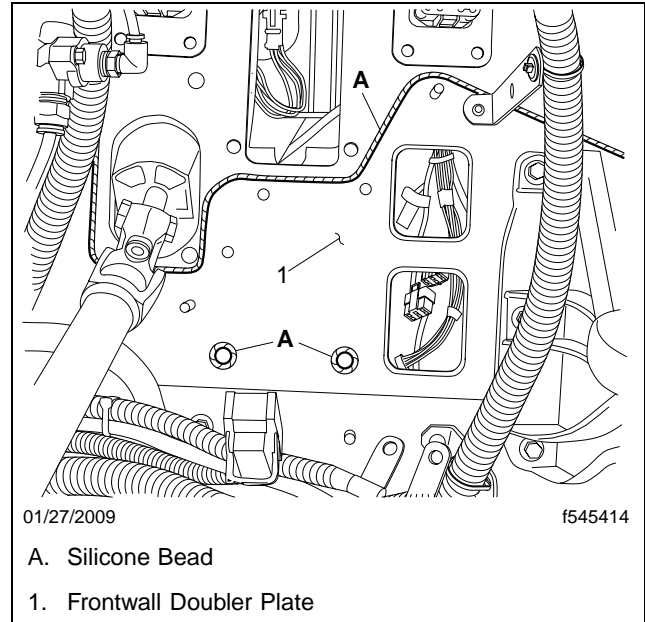

Fig. 14, Applying Silicone
28. If the vehicle was built before March 10, 2008, clean the edges of the frontwall doubler plate (see **Fig. 14**), then apply a bead of RTV silicone around the edges, extending the silicone bead all the way to the outboard edge of the frontwall. Also, apply a bead around the two lower holes in the doubler plate. The RTV bead should be 1/8 inch diameter and should be forced into the seam between the doubler plate and the frontwall. See **Fig. 14**.